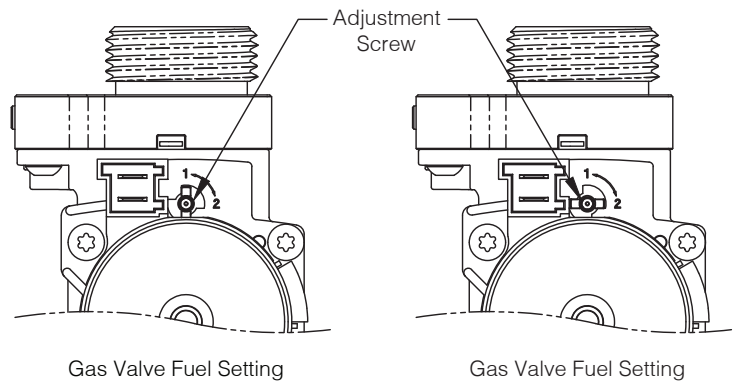

Figure 6-3: Gas Valve Detail
1. Use 2.5 mm hex wrench to adjust gas valve setting from "1" to "2" (Figure 6-3). For easy access to gas valve remove left side panel using (2) Phillips screws.